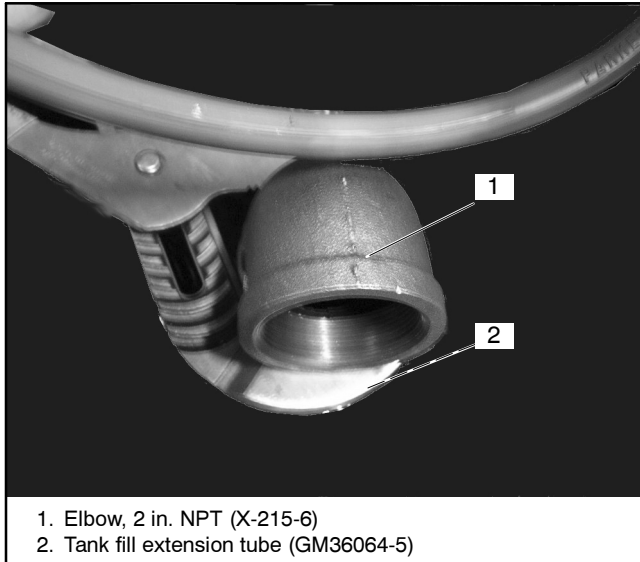

Figure 7 Secure Elbow to Overspill Vent Pipe
- 2.1.5 Attach 2 in. NPT elbow X-215-6 to top of tank fill extension tube GM36064-5 and tighten securely. See Figure 7.